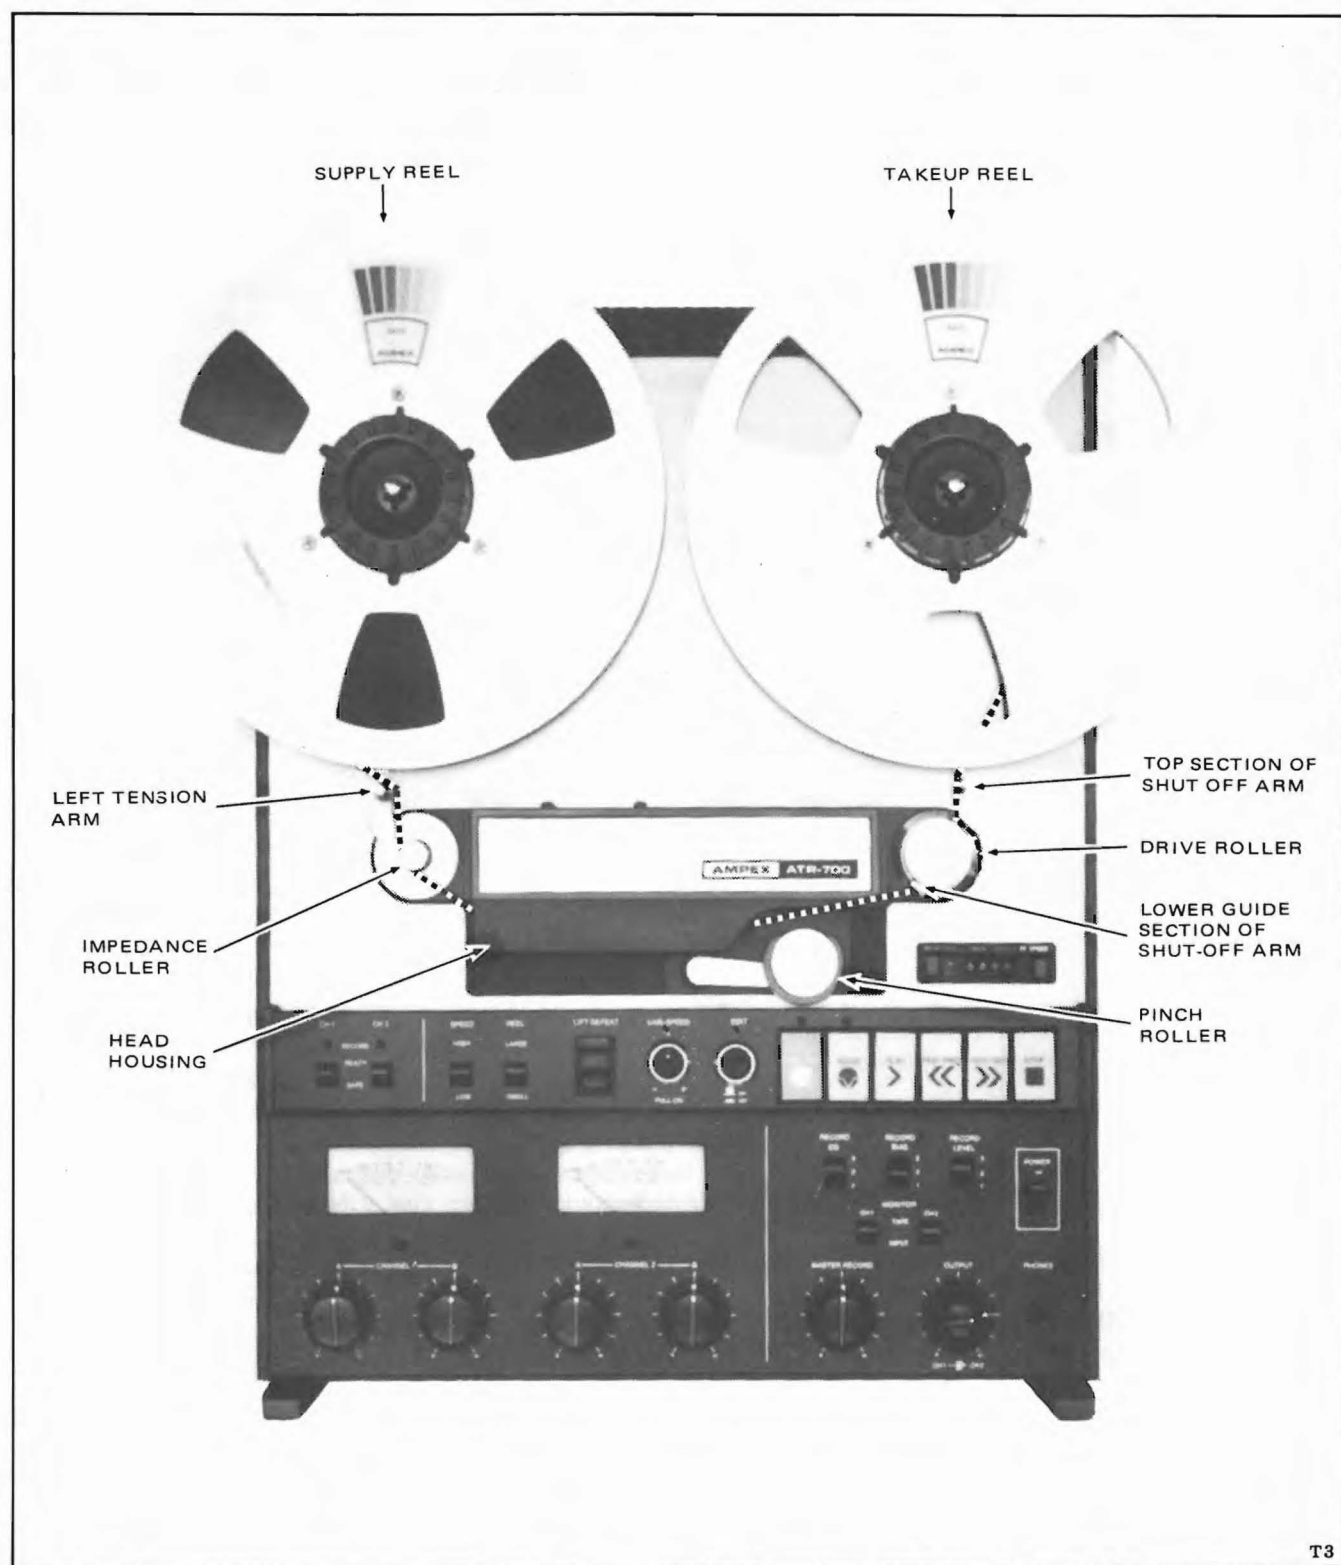

Figure 3-3. Tape Threading Path
2. Refer to Figure 3-3 and carefully unwind approximately 30 inches of tape from the supply reel and thread it in the following sequence: around the inside of the left tension arm; under the impedance roller; under the head housing; between the pinch roller and the capstan shaft; under the drive roller (between the roller and the lower guide section of the shut-off arm); left around the top section of the shut-off arm; and around the right side of the takeup reel.